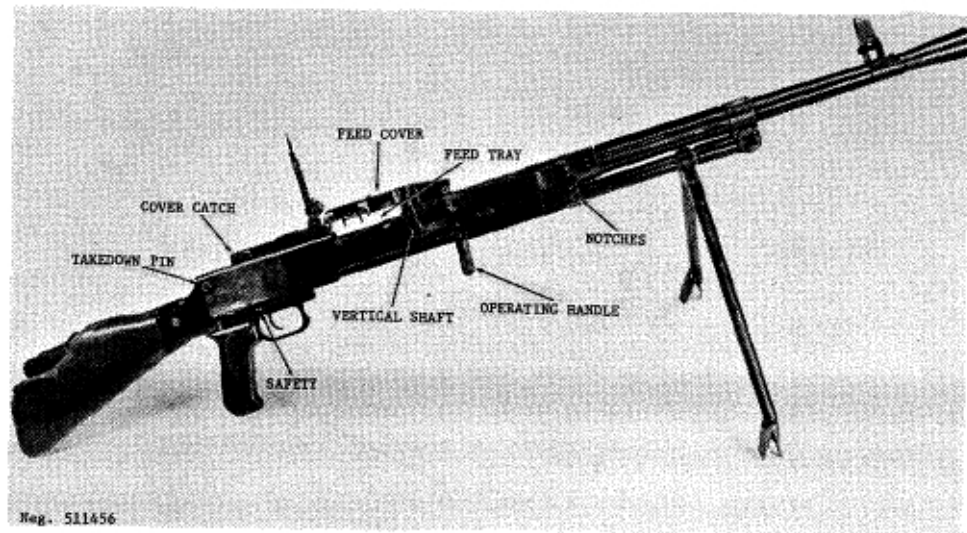
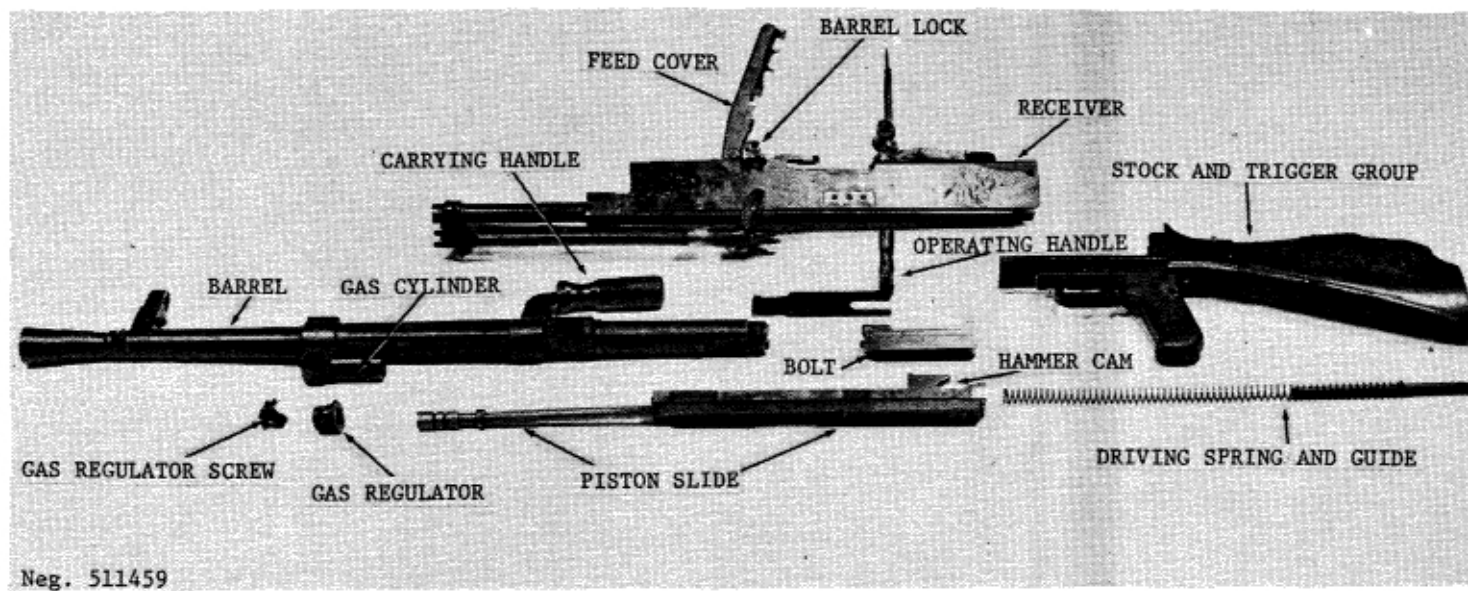

Figure 157. PRC Type 67 light machinegun.
Figure 160. Type 67 field stripped.
a. The 7.62-mm Type 67 machinegun (fig 157) recently entered service with the People's Republic of China's Army and has also been given to the North Vietnamese. This weapon will probably replace both the Type 53 light machinegun and the Type 58 company machinegun (para 173).
b. Press the cover catch (fig 157) to one side and allow the feed cover (fig 157) to swing open. Unfold the operating handle (fig 157) until it points downward at a 45-degree angle; pull it fully to the rear, then return it fully forward. Place the cartridge belt on the feedtray (fig 157) with the first round in the feedtray slot. Close the cover.
c. If the gun is not to be immediately fired, render it safe by rotating the safety (fig 157) forward.
d. Prior to firing, lift the rear sight to its vertical position and rotate the elevation knob (on the left) (fig 157) until the number that corresponds to the range in hundreds of meters is aligned with the top edge of the slider (fig 157). Each click of the elevation knob, up to 1000 meters, causes a change in range of approximately 25 meters; beyond 1000 meters, each click equals about 20 meters. The right hand knob is used to apply windage corrections. Each click of this knob causes a change in bullet impact of about one inch for each hundred meters of range.
e. To fire, rotate the safety (fig 157) rearward, aim, using a normal sight picture, and press the trigger. The gun will fire as long as the trigger is pressed and cartridges are in the belt. Best results are achieved by firing in bursts of five to eight rounds, then reaiming and firing again. The bolt will remain open between bursts and close on an empty chamber when the last round has fired.
g. The barrel may become overheated during firing. To change barrels, press the cover catch and open the feed cover (fig 157). Press the barrel lock (fig 160) to the left as far as possible. Use the carrying handle and pull the barrel forward, out of the gun. Insert the spare barrel into the receiver, insuring that the gas cylinder enters the gas cylinder tube (fig 157). Press the barrel lock in, fully to the right. (Note: There is a screw adjustment on the barrel lock to compensate for wear. This screw is adjusted only by an armorer.) Close the cover.
b. Press the takedown pin (fig 157) out to the right as far as possible, then pull the stock and trigger group straight to the rear until it comes free. Remove the driving spring and guide. Pull the operating handle rearward; this will move the gas piston, slide and bolt to the rear where they can be removed. Lift the bolt off the slide (fig 160). Pull the operating handle rearward until it comes clear of the receiver.
move and, as the cam moves rearward, the roller and its arm are moved sideward by the cam. This movement is transmitted by a vertical shaft (fig 157) to an upper feed arm. As the upper arm moves, a slot in it engages a roller on the feed slide and the upper arm movement causes the feed slide to move outward to engage a bush round.
the leg clamps. Install the gun on the tripod by fitting the notches on the front of the receiver (fig 157) onto the pins in the mount; then swing the gun down until the latch snaps onto the front of the trigger guard. The method of converting this mount for antiaircraft use is similar to the method described in paragraph 220d.